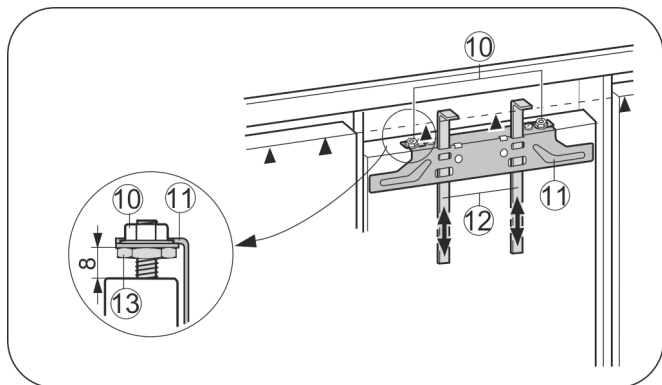

Fig. 17
- ▶ Push up assembly aids Fig. 17 (12) to unit door height. Lower edge ▲ of the assembly aid = top edge of the unit door to be fitted.
- ▶ Unscrew fastening crosspiece Fig. 17 (11) by undoing the locknuts Fig. 17 (10).